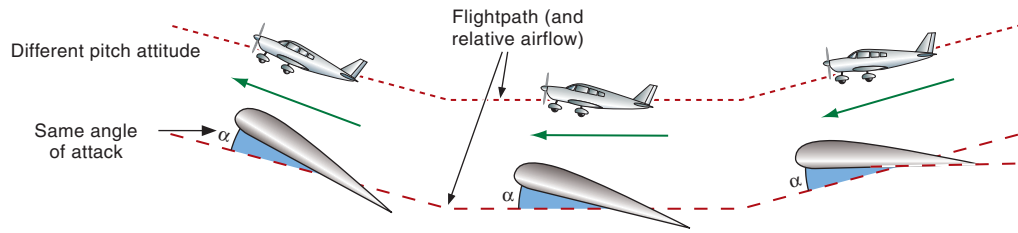

Figure 4-25 Same angle of attack, but different pitch attitudes.
1. Do not confuse the *pitch attitude* of the airplane (relative to the horizontal) with the angle of attack of the airfoil (relative to the remote airflow). See figures 4-25 and 4-26.